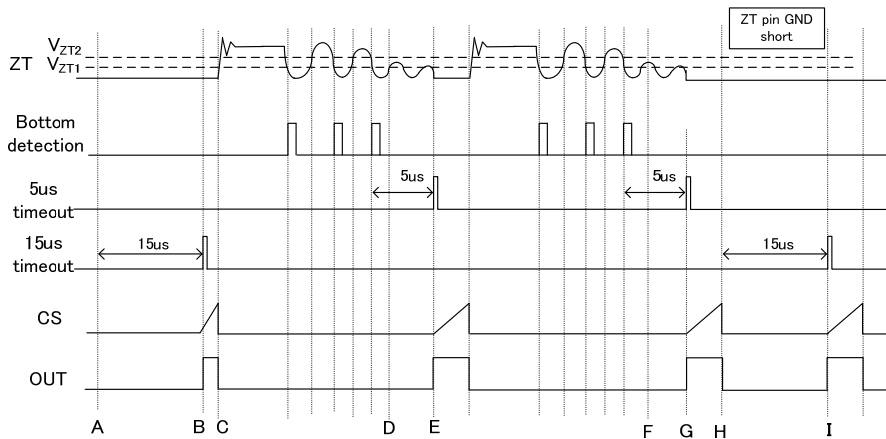

Figure 23 ZT Timeout Function
**(4-7-1) ZT Timeout Function1 (Figure 23)**
**(4-7-2) ZT Timeout Function2 (Figure 23)**
For the purpose which protects the external MOSFET, H level of the OUT (5pin) is clamped to  $V_{OUTH}$  (typ=12.5V). It prevents gate destruction of MOSFET by raising the VCC (6pin) voltage. (Refer to Figure 23) The OUT (5pin) is pulled-down  $R_{PDOUT}$  (typ=100k $\Omega$ ).